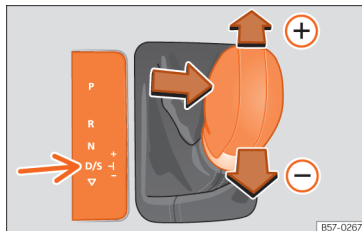

Fig. 86 Lever in the Tiptronic position
- Move the lever forwards (+) or backwards (-) to change up or down a gear >>> **Fig. 86**.